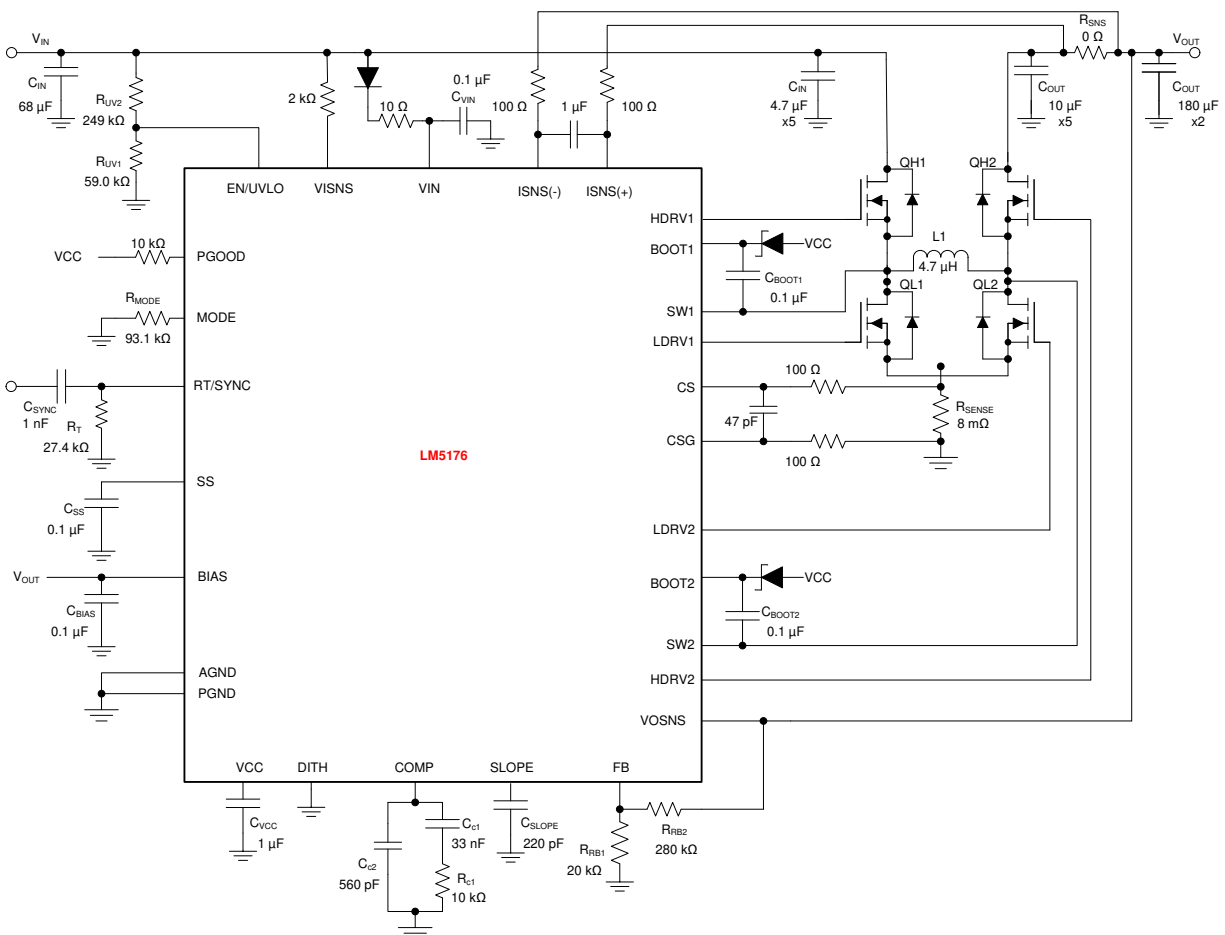

Figure 8-1. LM5176 Four-Switch Buck Boost Application Schematic
A filter network as shown in Figure 8-1 is often used across the ISNS(+) and ISNS(-) pins to filter the ripple in the average current sense signal.
For application where input voltage is higher than 40 V, a 2-k Ω resistor in series with the VISNS pin is required as shown in Figure 8-1.
The LM5176 has a gm error amplifier for loop compensation. The gm amplifier output (COMP) range is 0.3 V to 3 V. Connect an R_{c1} - C_{c1} compensation network between COMP and ground for type II (PI) compensation (see Figure 8-1). Another pole is usually added using C_{c2} to suppress higher frequency noise and switching frequency ripple.
The low-side gate drivers are powered from VCC and the high-side gate drivers HDRV1 and HDRV2 are powered from bootstrap capacitors C_{BOOT1} (between BOOT1 and SW1) and C_{BOOT2} (between BOOT2 and SW2), respectively. The C_{BOOT1} and C_{BOOT2} capacitors are charged through external Schottky diodes connected to the VCC pin as shown in Figure 8-1.
Typically, a combination of ceramic and bulk capacitors is needed to provide low ESR and high ripple current capacity. The complete schematic in Figure 8-1 shows a good starting point for C_{OUT} for typical applications.
The maximum RMS current occurs at $D = 0.5$, which gives $I_{\text{CIN(RMS)}} = I_{\text{OUT}} / 2 = 3 \text{ A}$. A combination of ceramic and bulk capacitors should be used to provide a short path for high di/dt current and to reduce the output voltage ripple. The complete schematic in Figure 8-1 is a good starting point for C_{IN} for typical applications.
For some application circuits, it can be required to add a filter network to attenuate noise in the CS and CSG sense lines. See Figure 8-1 for typical values. The filter resistance should not exceed 100 Ω .